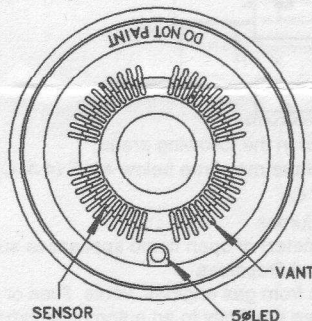

Figure 4 Front cover of detector head
- (1) Align up the position of head to the base, see Figure 4.
- (2) Screw the detector head into the base in clockwise direction.